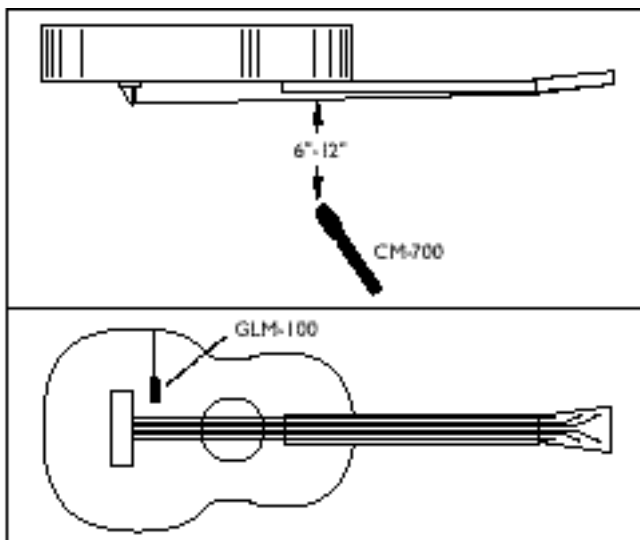

Figure 3
- Attach a GLM-100 to the guitar soundboard, halfway between the bridge and the sound hole, near the low E string (Figure 3).
- Place a CM-700, CM-150, or GLM-100 6 to 12 inches from where the finger board joins the body (Figure 3). For stereo, add another mic the same distance from the bridge.